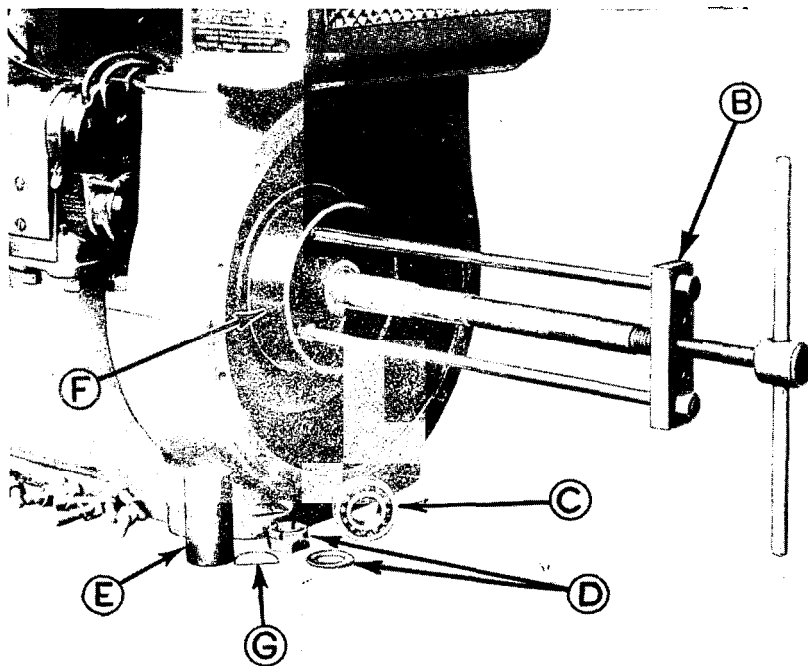

Figure 32
a. *General.* After the armature has been removed, the flywheel can be removed as shown in Figure 32